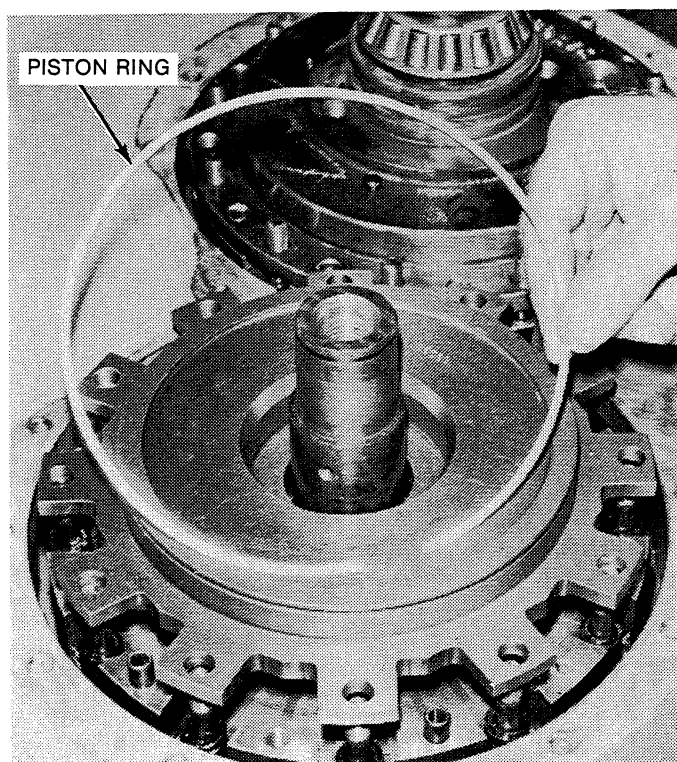

Figure 6-14. *Piston Ring Removed from Clutch Piston.*
6. Remove the piston ring from the clutch piston. See Figure 6-14.